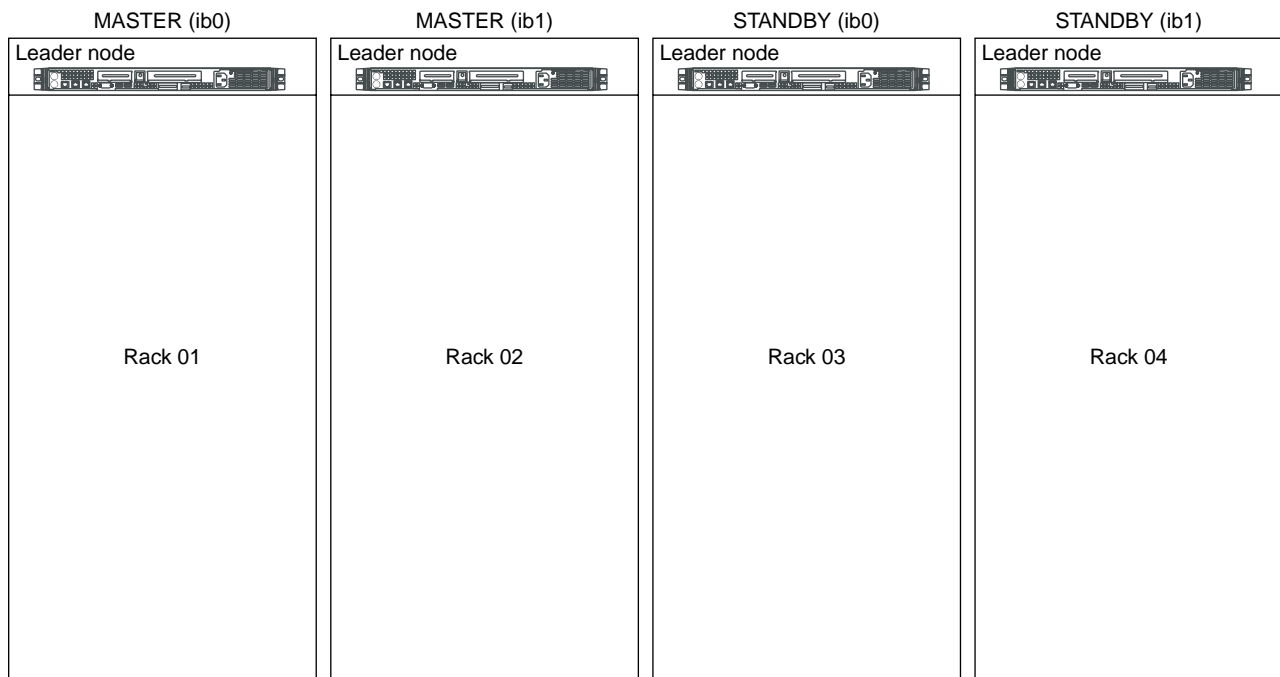

Figure 4-6 `opensm` Software Failover
Each subnet manager (SM) has a failover mechanism. If the master SM fails, the standby SM takes over operation of the fabric. This failover operation is performed automatically by the `opensm` software. Typically, `rack1` is the MASTER for the `ib0` fabric and `rack2` has the MASTER for the `ib1` fabric, as shown in Figure 4-6 on page 212.